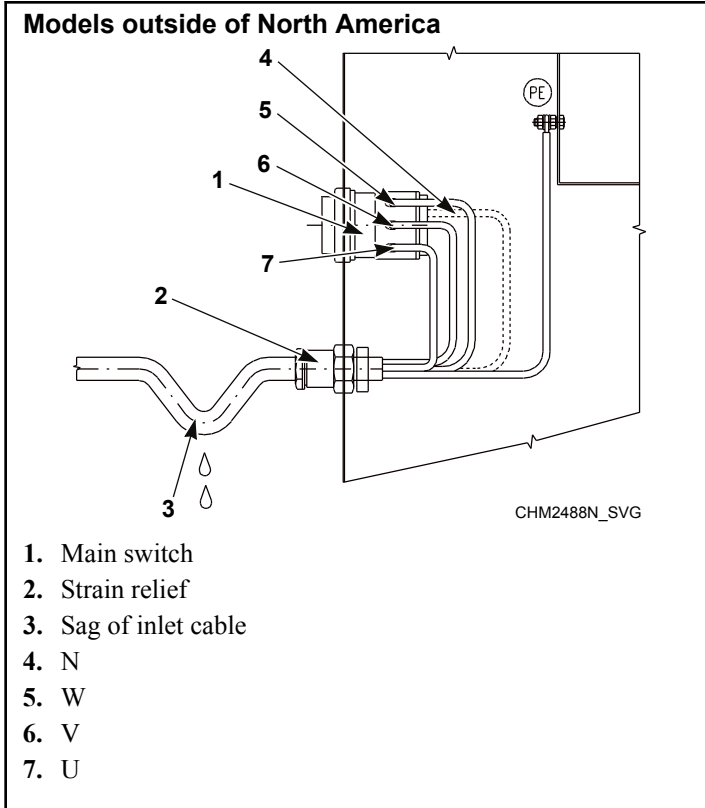
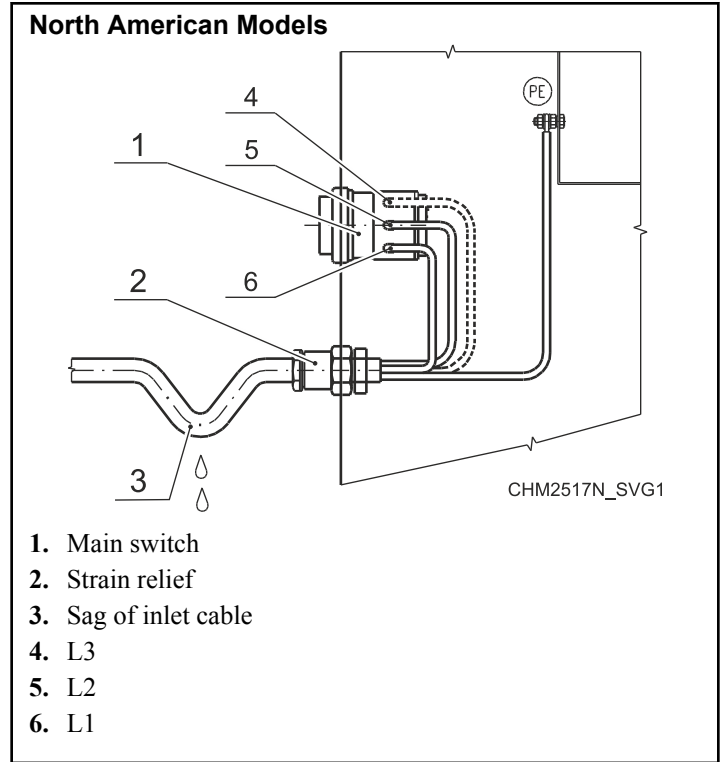

Figure 26
Figure 27
- With stranded conductors, use wire end tubes with an insulated sleeve (6) for L1/U, (L2/V), (L3/W), (N) conductors. Make sure there is no accidental contact, since the supply cable stays under voltage even when the main switch is off.
5. Connect the supply cable conductors to the incoming terminals (main switch [1]), marked with L1/U, (L2/V), (L3/W), (N) and the terminal marked with PE. Refer to *Figure 26* or *Figure 27*.
6. Provide a sag in the cable, in front of the strain relief. This will prevent condensed water from dripping into the machine. Refer to *Figure 26* or *Figure 27*.